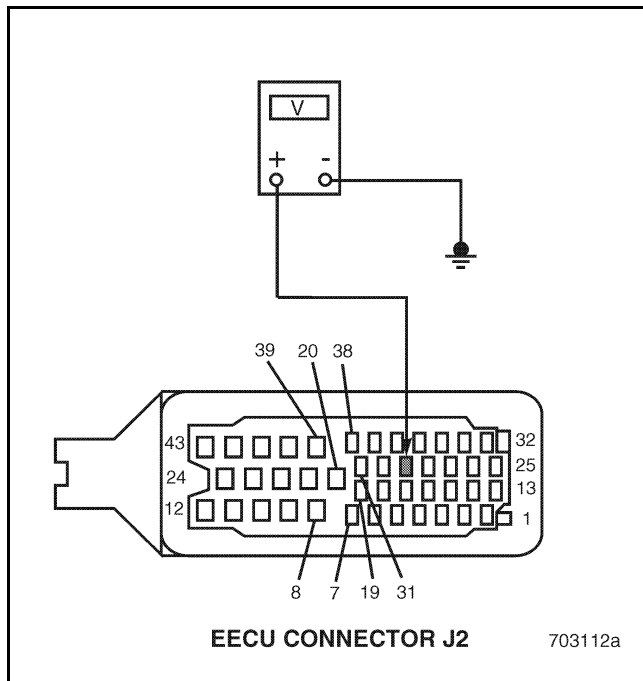

Figure 297
5. Measure the voltage between EECU harness connector J2 pin 29 and a good ground (see Figure 297).